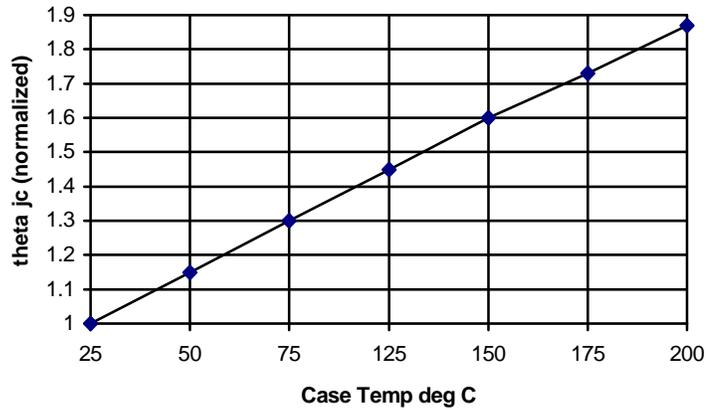

Figure 1 Approx.  $\theta_{jc}$  for combined resistance of Si and BeO
1.1. For accurate measurements of input and output power, Polyfet uses a pair of electronic wattmeters of the thermoelectric type. These wattmeters and associated heads are mounted in a shielded enclosure along with the associated switches, bi-directional couplers, attenuators and loads. A typical measurement set-up is illustrated, Fig. 1. below.
2. Description of Figure 1
- 1.1. We must remember that the thermal resistance of all materials increases with increasing temperature. In a transistor, the die itself and the BeO insulator are the weakest links. The  $\theta_{jc}$  numbers given in data sheets are for 25°C case temperature, but in actual use of a device we are talking about case temperatures around 75°C typically, where the  $\theta_{jc}$  would be some 25% higher. See Fig 1. below.